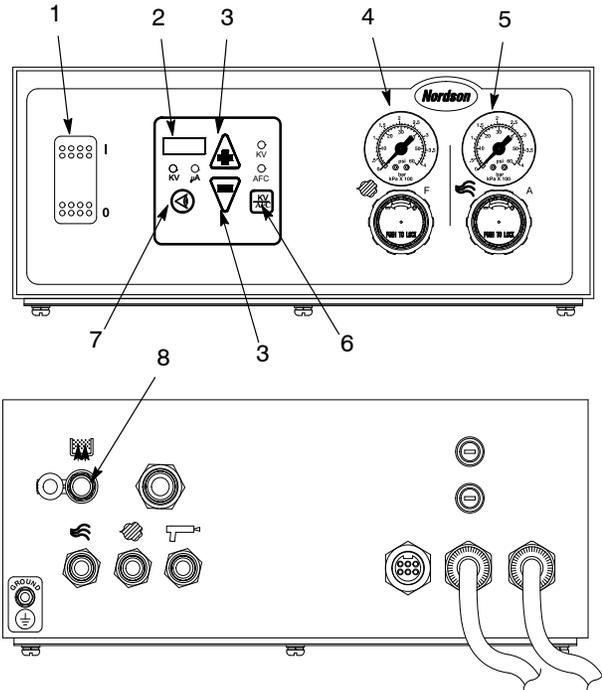

Figure 7 Control Unit Operation
1. See Figure 7. Make sure the fluidizing air valve (8) is turned fully clockwise.
1. See Figure 7. Make sure that the power switch (1) is in the off position.
2. While holding down the kV/AFC key (6), turn the power switch to the on position. A code will appear, identifying the currently selected gun type.
3. Use the +/- keys (3) to select the appropriate gun type code.
See Figure 7.